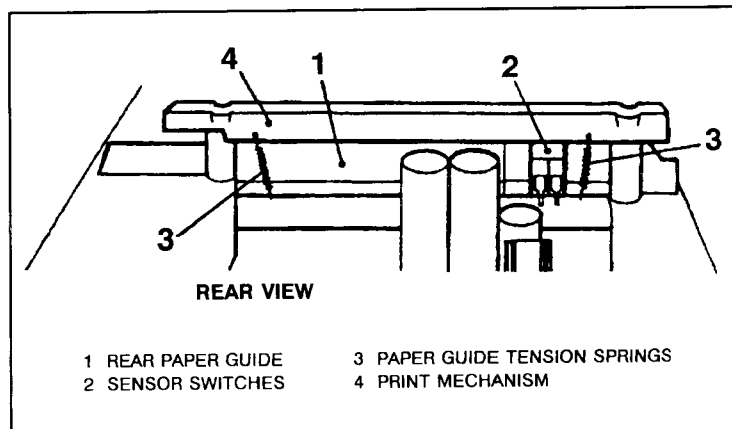

Figure 6-24. Print Mechanism Sensor Switches
- e. Remove the two springs connected between the rear paper guide and the print mechanism (see Figure 6-24). These springs tension the paper guide to the print mechanism.